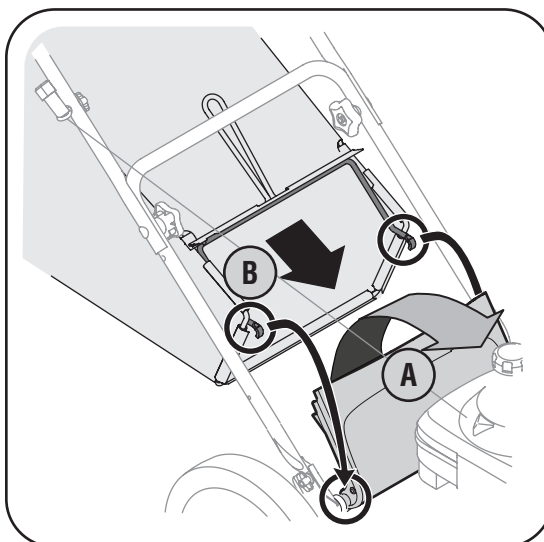

Figure 3-7
- b. Place grass catcher on the pivot rod. Let go of discharge door so that it rests on the grass catcher. See Figure 3-7.
To remove grass catcher or convert to a mulcher (if equipped), lift rear discharge door on the mower as shown in Figure 3-7. Lift grass catcher up and out of the pivot rod. Release rear discharge door to allow it to close rear opening of mower.